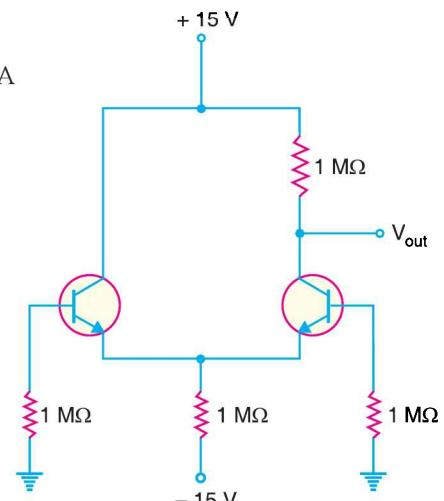

Fig. 25.25
**Example 25.11.** In Fig. 25.25, the left transistor has  $\beta_{dc} = 90$  and the right transistor has  $\beta_{dc} = 110$ . Find (i) the input offset current (ii) input bias current. Neglect  $V_{BE}$